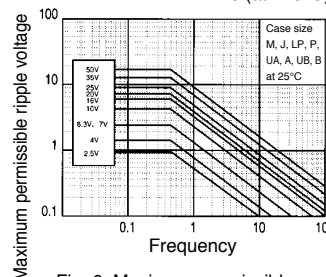

Fig. 6 Maximum permissible ripple voltage (LM, J, LP, P, UA, LA, A, UB, B)
- (2) Ensure that an reverse voltage due to superimposed voltages is not applied to the capacitors.
- (3) The maximum permissible ripple voltage varies with the rated voltage. Ensure that ripple voltage does not exceed the values shown in Figs. 6 and 7. If, however, the capacitors are used at a high temperature, the maximum permissible ripple voltage must be calculated as follows: